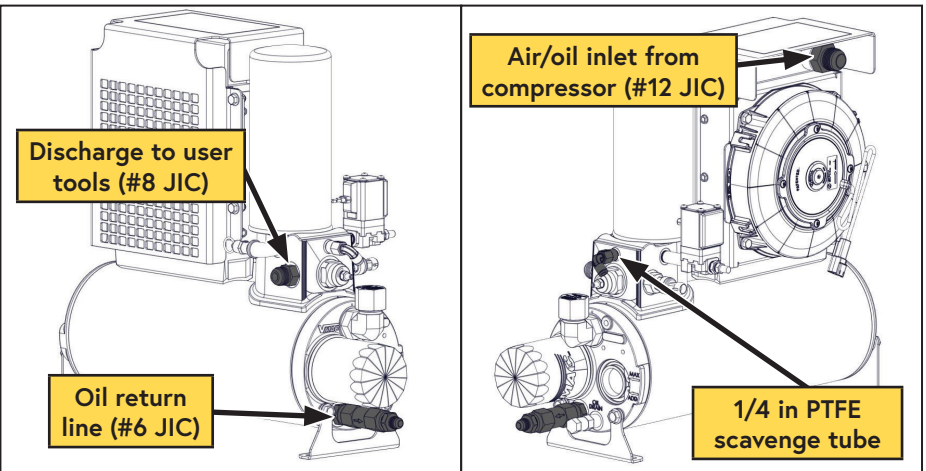

Figure 35 — WHASP Tank connections
- Connect the 90° fitting on the 3/4 in hose to the #12 JIC fitting (air/oil inlet) on the cooler above the fan (Figure 35).
- Connect the 90° fitting on the 3/8 in hose to the #6 JIC fitting (oil return fitting) beneath the oil filter on the tank (Figure 35).
- Connect the 1/4 in PTFE tube to the 1/4 in push-to-connect (oil scavenge) fitting near the coalescing filter (Figure 35).